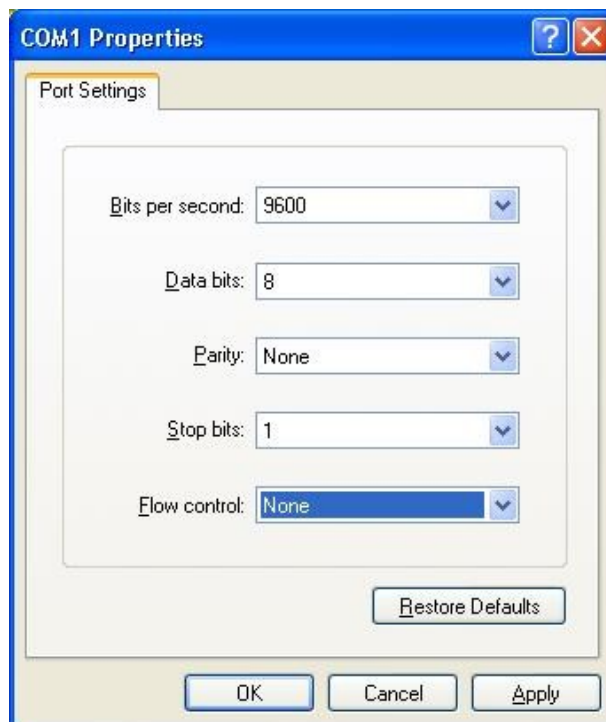

Figure 20 Setting Port Parameters
Step 5: Set port parameters (Bits per second: 9600, Data bits: 8, Parity: None, Stop bits: 1, and Flow control: None), as shown in Figure 20.